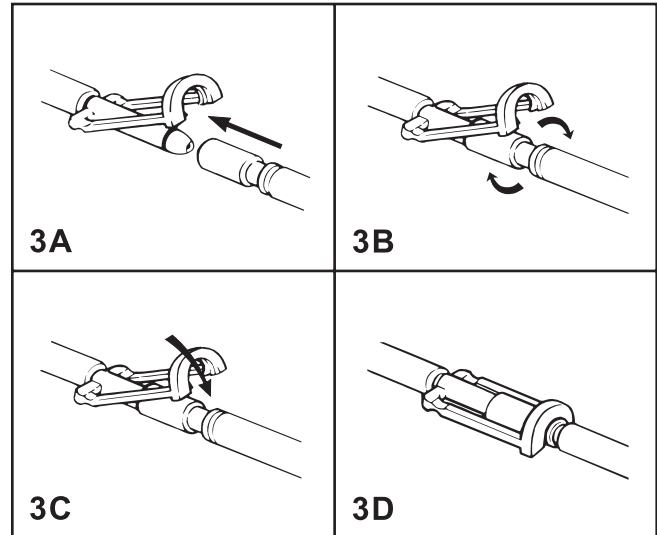

Figure 3—Clik-Tite® Connectors
Attached Hose	10 ft (305 cm) dual hose. Connectors allow pads to be connected to the pump (see figs. 3 and 4, p. 5).
1. Before filling the pump, always attach a pad to the connector hose or close the clamps on the connector hose ends (see figs. 3 and 4, p. 5). Then, unkink pad and hose. Open hose clamps.